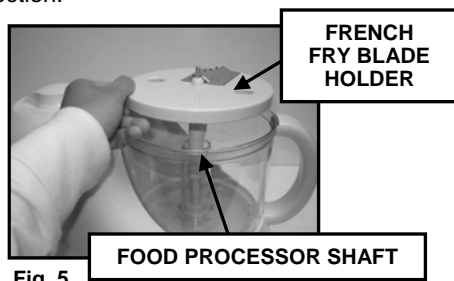

Fig. 5
- Once the food processor bowl is securely in place, insert the french fry blade holder into the shaft of the food processor. (Fig. 5) Ensure that the blade holder is securely in place before continuing.